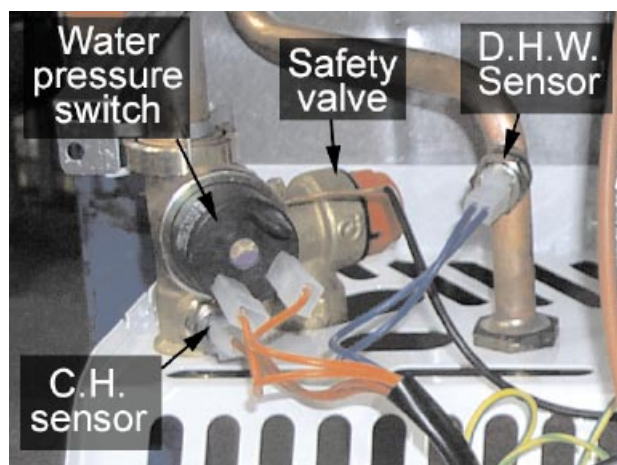

Fig. 29
7.07 D.H.W. temperature sensor or Central Heating Temperature Sensor (fig. 29)
- Identify the sensor from figure 29
7.08 Water Pressure Switch (fig. 29)
- Identify the switch from figure 29
7.09 Safety Valve (fig. 29)
- Identify valve from fig. 29